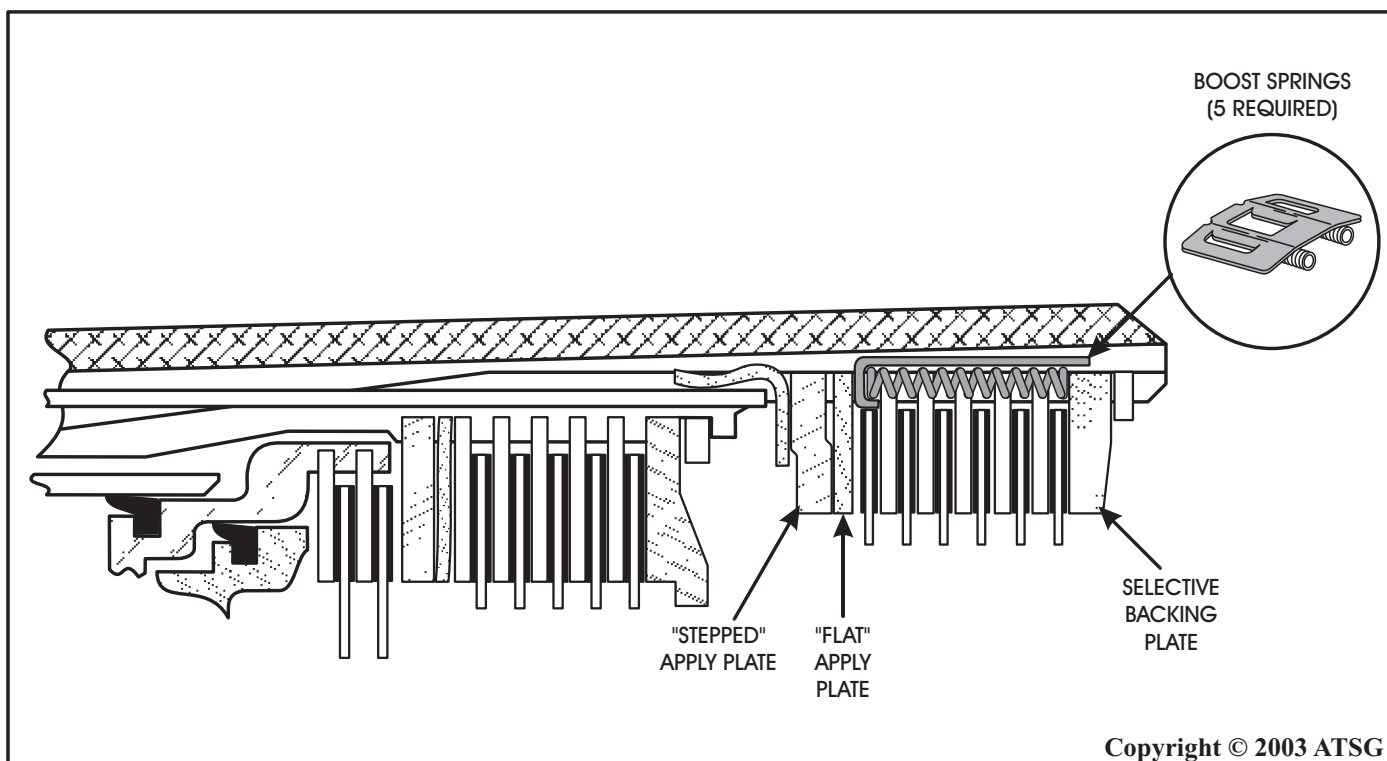
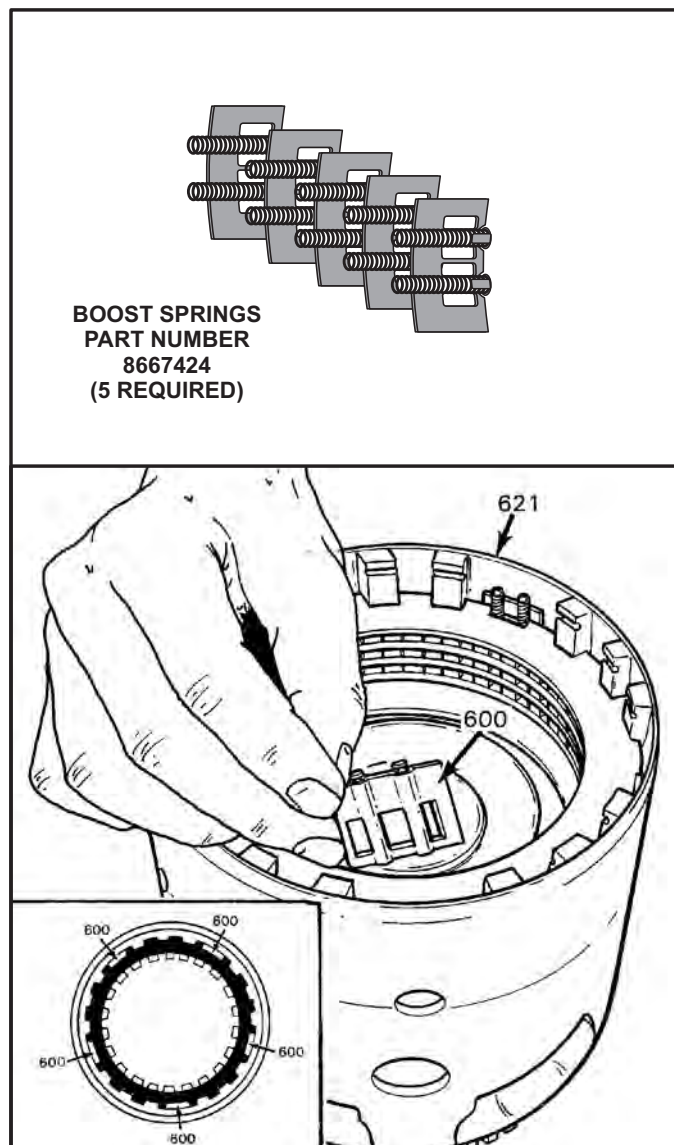

Figure 55
Figure 57
CHANGE: Beginning on July 23, (Julian Date 204) 1988, there were five 3-4 clutch boost springs added between the backing plate and the apply plate in the 3-4 clutch pack, as shown in Figure 55. These "load release" springs were added only on the following models, YDM, TMM, YWM, and YZM for the 1988 model year. Beginning in 1989 they were implemented on all models.
- (1) **LOAD RELEASE SPRINGS** - Added on YDM, YMM, YWM, YZM models only, between the backing plate and the apply plate, as shown in Figure 55. They are located in five equally spaced places around the 3-4 clutch pack, as shown in Figure 57.